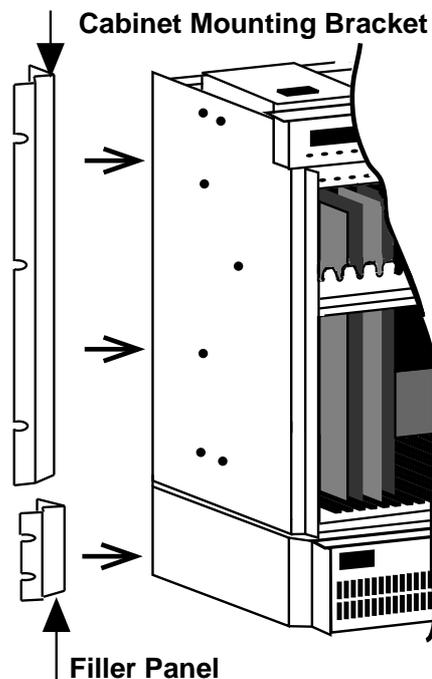

Figure 2-23. Installing Mounting Brackets onto the MAP/100C
7. Attach the two cabinet frame dress filler panels (A10070 and A10071) to the frame under the mounting brackets (Figure 2-23).
3. Locate and attach the left and right mounting ear brackets (A10036-A and A10037-A) to the side plate of the unit (Figure 2-23).